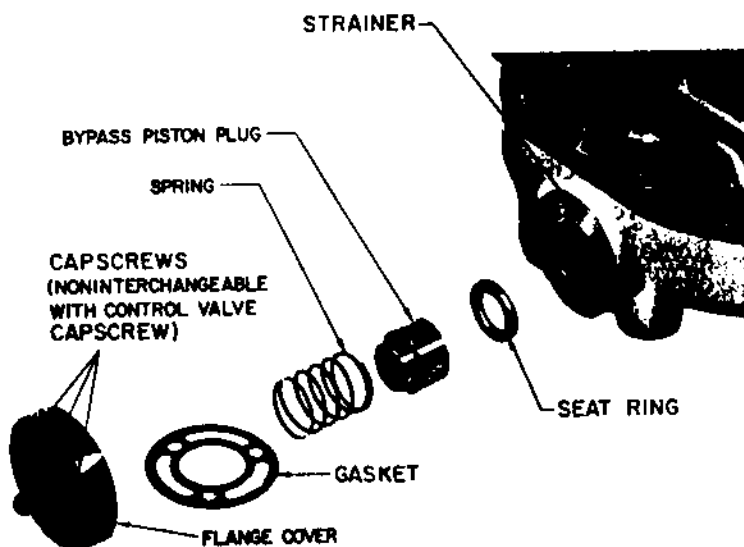

Figure 2-1. Removal of Bypass Piston Plug
a. Remove the three socket head capscrews holding piston plug to cylinder head of the replacement compressor. See figure 2-1.
d. Using a new gasket, install the unloaders in the cylinder heads of the replacement compressor. See figure 2-1. Refer to table 3-1, page 3-2, for required torque values.